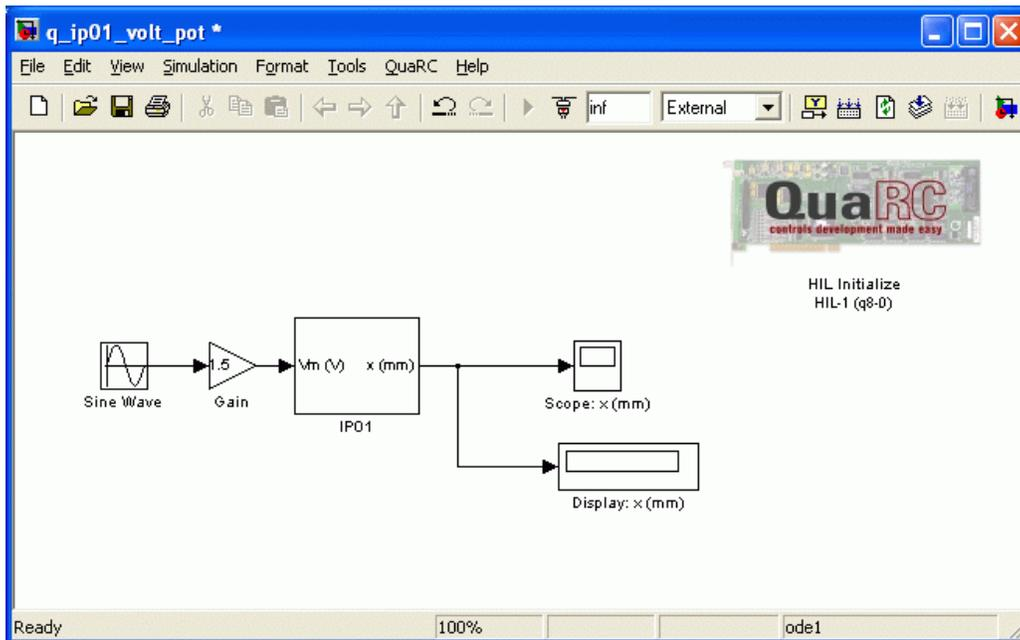

Figure 10 Model using the IP01 Subsystem
Step 2. Figure 10, below, provides an example of model using the IP01 block. Create and run in real-time the model represented in Figure 10. You should be able to replicate the observations previously made in Sections Applying a Voltage to the DC Motor and Measuring from the IP01 Cart Potentiometer.